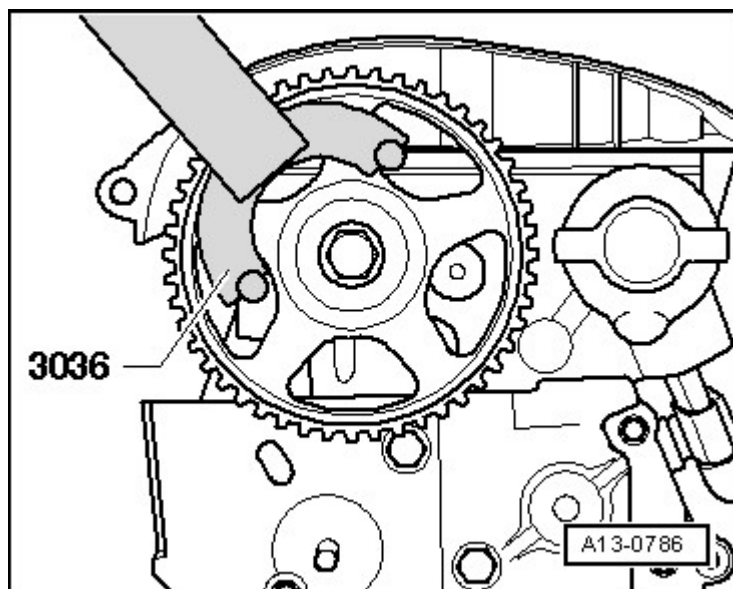
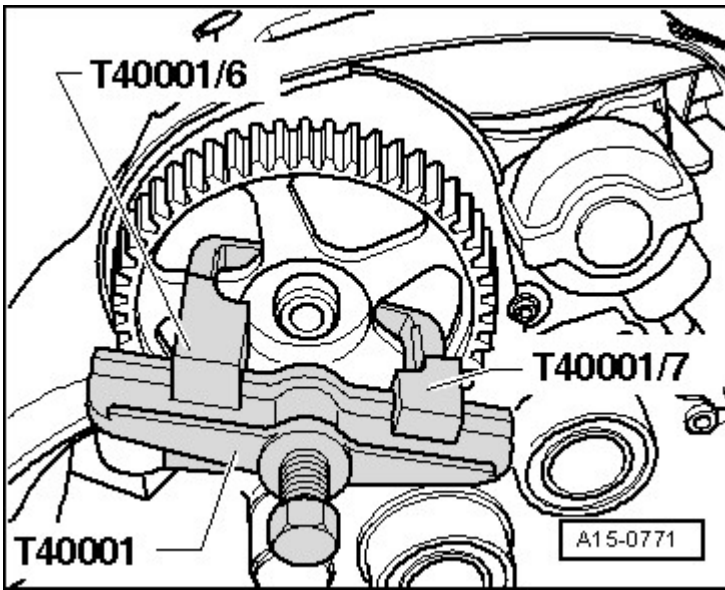

Fig. 6: Loosening Bolt For Camshaft Sprocket Using Retainer 3036
Fig. 7: Identifying Puller T40001, Claw T40001/6 And Claw T40001/7
- Use retainer 3036 for loosening and tightening, refer to **Fig. 6**
- Installation position secured by woodruff key 7
- Camshaft sprocket, removing, refer to **Fig. 7**